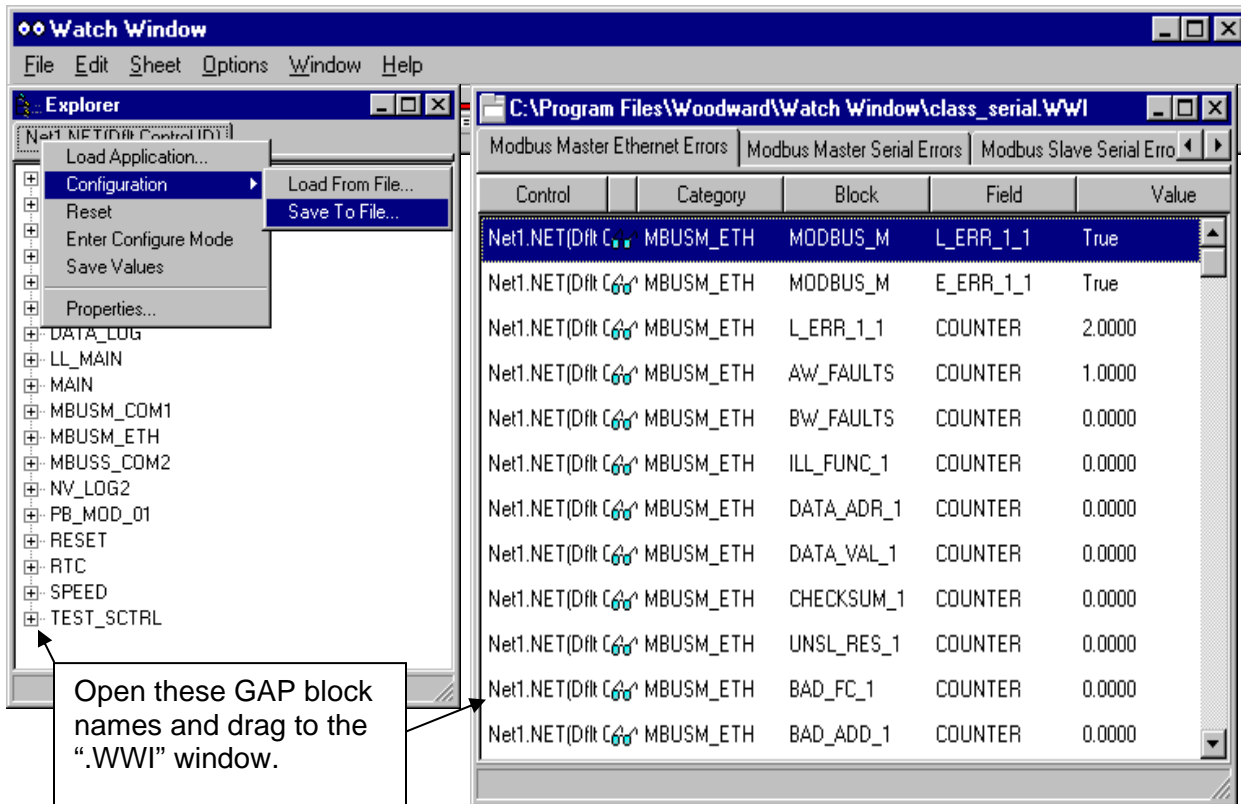

Figure 4-2. Watch Window Screen
5. Open Watch Window Professional or Standard. See Figure 4-2. Open a New file. You can Add sheets and build the window.
Watch Window is supported on the AtlasPC, but certain functions are not. In order to use certain functions some procedures must be followed for them to work correctly. If a right mouse click is performed on the .net file tab under the left "Explorer" window, the following functions are displayed (see Figure 4-2):